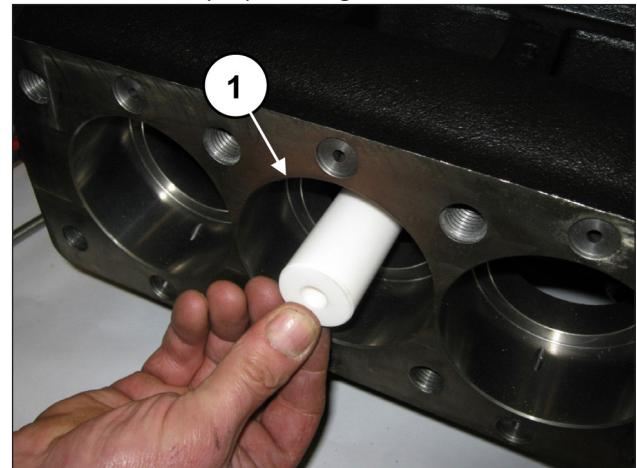
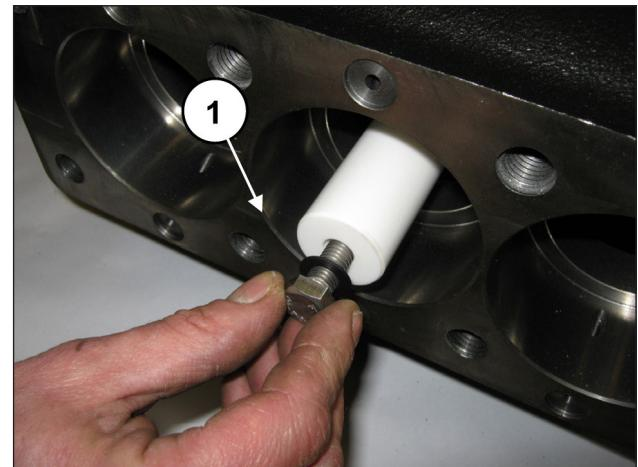

Fig. 184
Fig. 185
Install the pistons on their respective guides (pos. ①, Fig. 184) and fasten them as per pos. ①, Fig. 185.